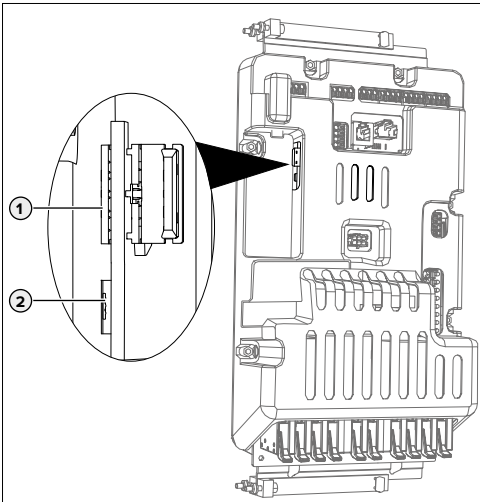

Fig. 20: Connections for the configuration on the ECU
- ▶ Connect end device (e. g. PC, laptop, mobile phone) and ECU with a USB cable. To do this, use the micro USB connection (2) of the ECU on the right-hand-side (AF2).
- "Fig. 20: Connections for the configuration on the ECU"